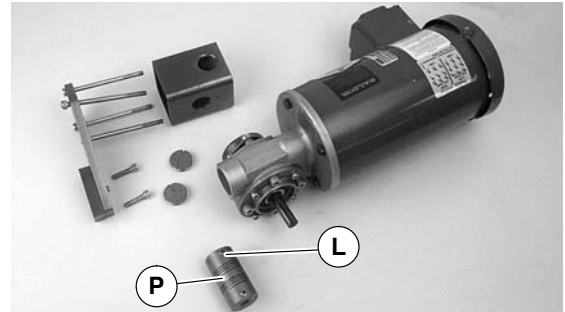

Figure 18
5. Loosen two (2) set screws (L of Figure 18) and detach coupling (P) from gear reducer.
13. Attach coupling (P of Figure 18) to gear reducer shaft. Tighten two set screws (L) to 32 in-lb (4.7 N-m).